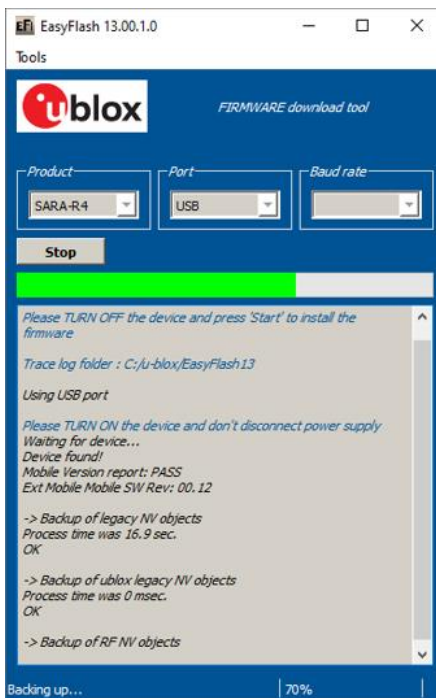
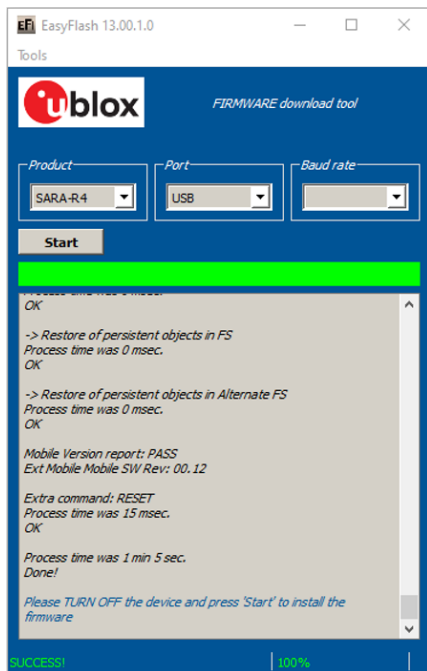

Figure 8: Flash process in progress
Figure 9: Flash process complete and successful
8. Flash will start, wait for flash to complete, see Figure 8 and Figure 9